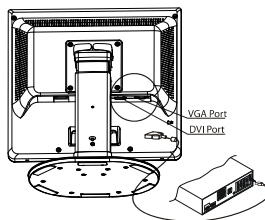
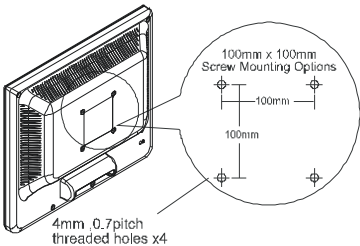

Figure 1-3
Figure 1-7
2. Connect one end of the signal cable to the LCD Monitor's VGA port or DVI port. (See Fig 1-3)
Before installing to mounting device, please refer to Fig.1-3. The rear of this LCD display has four integrated 4 mm, 0.7 pitches threaded nuts, as well as four 5 mm access holes in the plastic covering as illustrated in Figure 1-7. These specifications meet the VESA Flat Panel Monitor Physical Mounting Interface Standard (paragraphs 2.1 and 2.1.3, version 1, dated 13 November 1997).